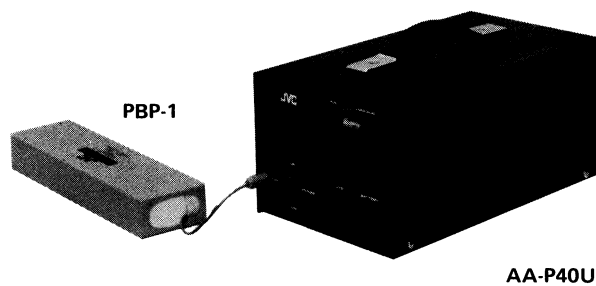

Fig. 1-8
**1-6-4 Recharging PBP-1 Battery Pack (See Fig. 1-8.)**